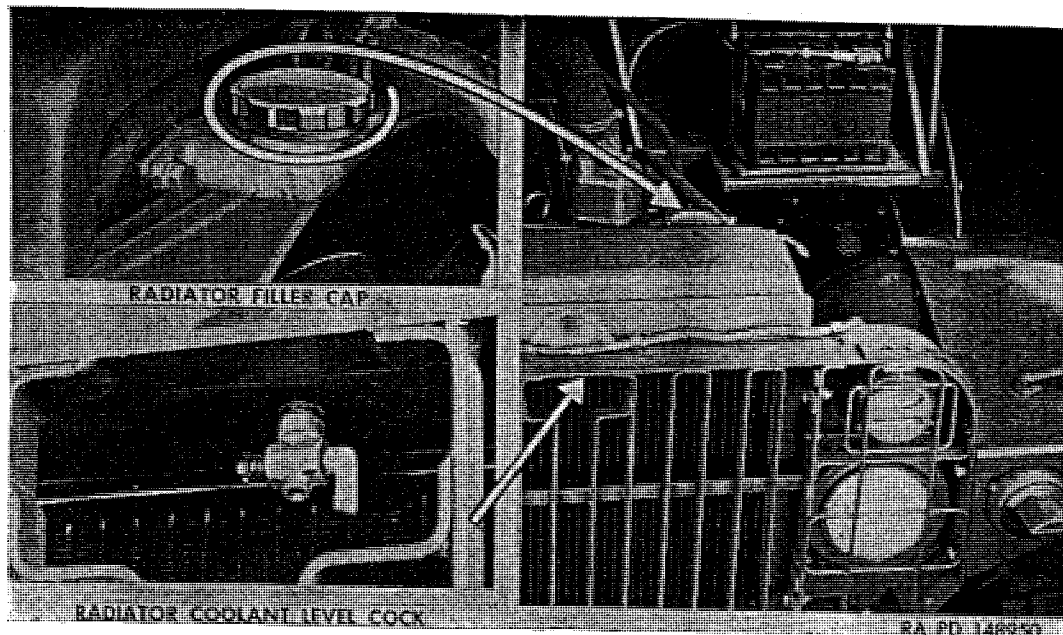

Figure 138. Radiator fillercap and level cock.
a. Filling System. Be sure that drain plug marked WATER on pan at bottom of transmission is installed, and that drain cock at the left rear of cylinder block and at bottom of radiator are closed (fig. 140). Open level cock (fig. 138) at top front of radiator. Remove threaded fillercap from filler neck; then fill system until water is visible in filler neck. Close level cock and continue to add water until no more air bubbles can be seen. Run engine a few minutes to further expel air; then add more water to bring level up to level cock.
b. Draining System. Refer to cooling system draining instruction plate (fig. 139) mounted on instrument board (fig. 29). Run engine at fast idle until normal engine operating temperature is reached (thermostat opens) to stir up any loose rust, scale, etc. Open water level cock (fig. 138) to relieve system pressure. Remove plug at bottom of transmission, marked WATER, also open drain cock at left side of cylinder block and at bottom front of radiator core (fig. 140).
- (1) *Removal.* Open water level test cock (fig. 138) to drain system below pressure valve. Pry out valve retaining ring; then remove pressure valve assembly (D) from radiator upper tank. Remove and discard valve gasket.
- (2) *Installation.* Place new gasket on pressure valve seat. Locate pressure valve assembly in place; then install retaining ring. Be sure retaining ring enters groove all the way around. Fill cooling system (par. 142a) and close water level test cock (fig. 138).